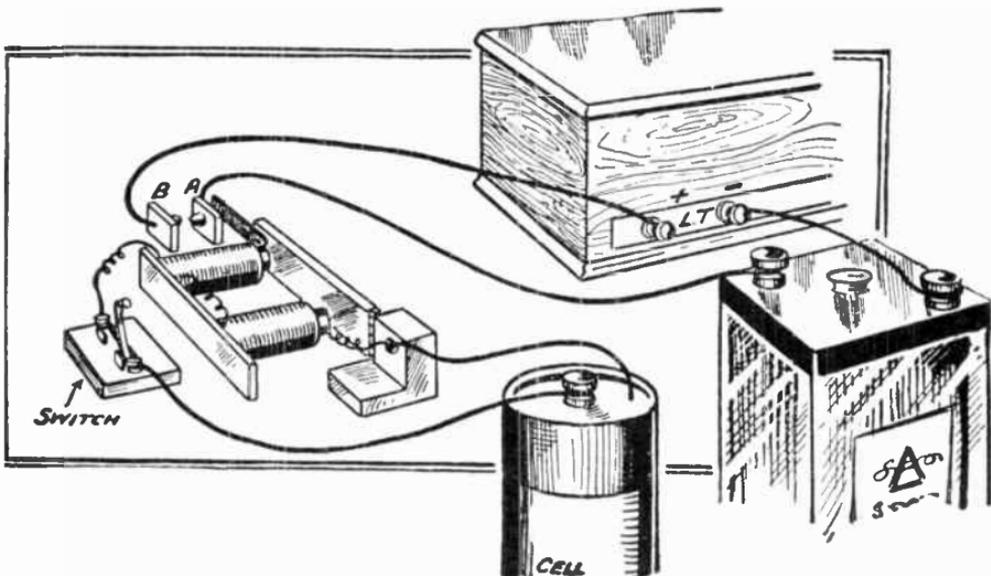

FIG. 352.—A Relay which consists of the Magnets and Armature of an electric bell.
In Fig. 352 the armature of the bell has been extended by a piece of thin ebonite or fibre cemented on. Two small contacts, (A) and (B), made from brass or from an old dismantled bell push, are then mounted close together so that when the armature is attracted to the mag-